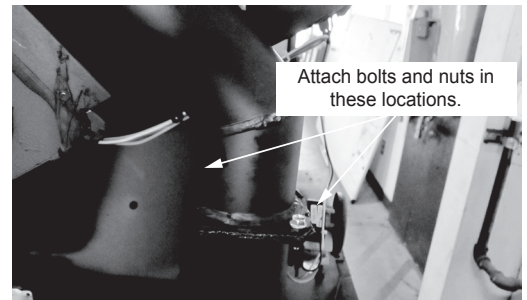

Figure 20.4
3. Using a 3/8-inch wrench and 7/16-inch socket wrench fasten Rear Shroud Top Vent to the the exhaust transition with two bolts and two nuts. Secure with two clamps from the appliance (Figures 20.4 and 20.5).